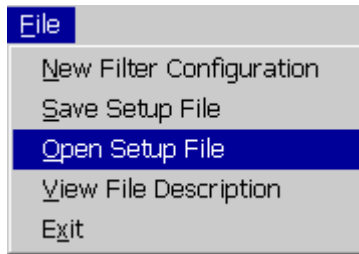

Figure 3-2 Fast Start File Pulldown Menu
8. From the MCAP Master Control Panel menu bar, click on **File**. This will cause the following pulldown menu to appear (Figure 3-2):